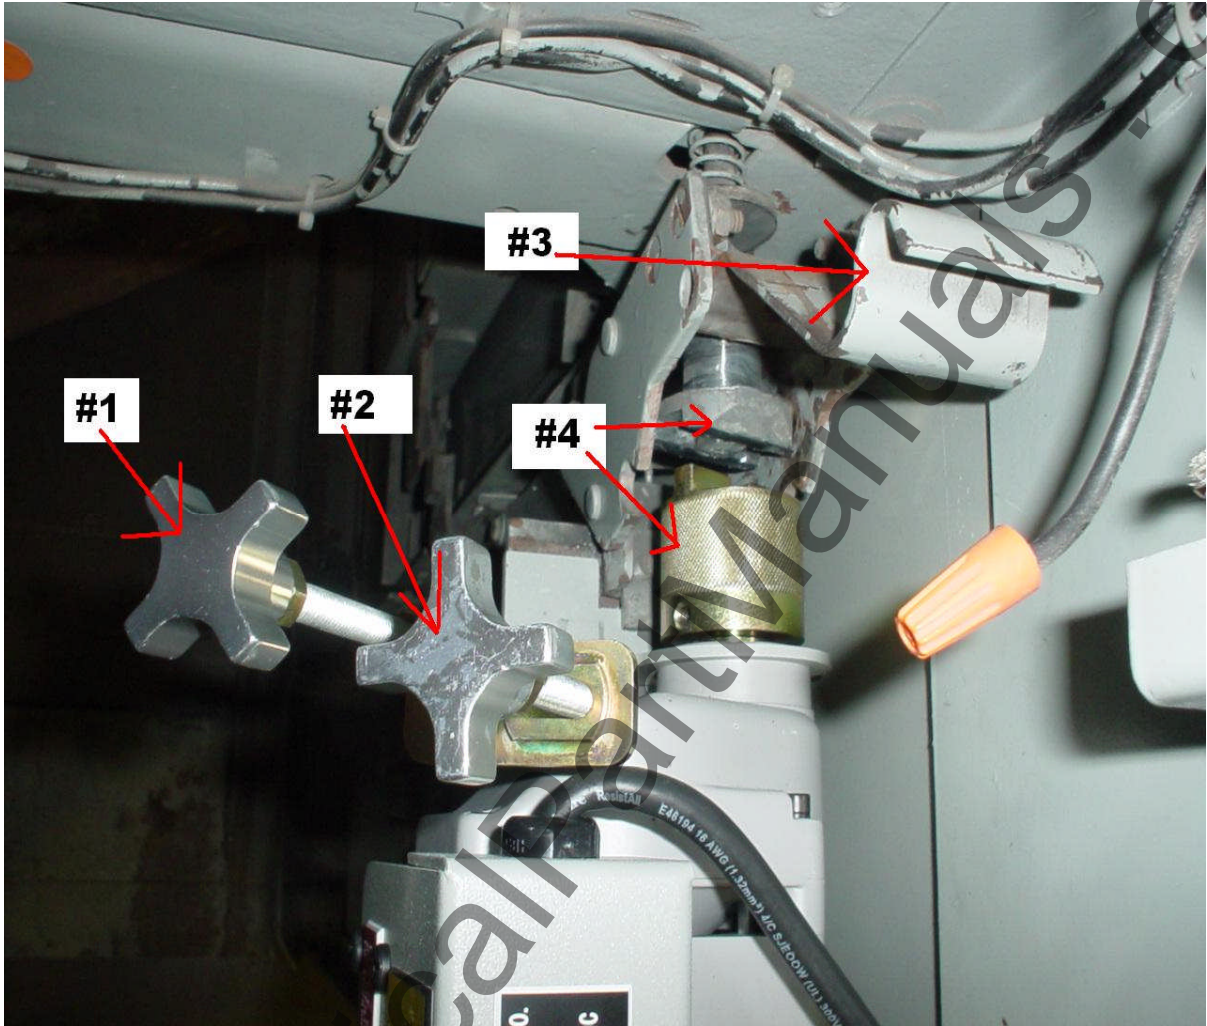
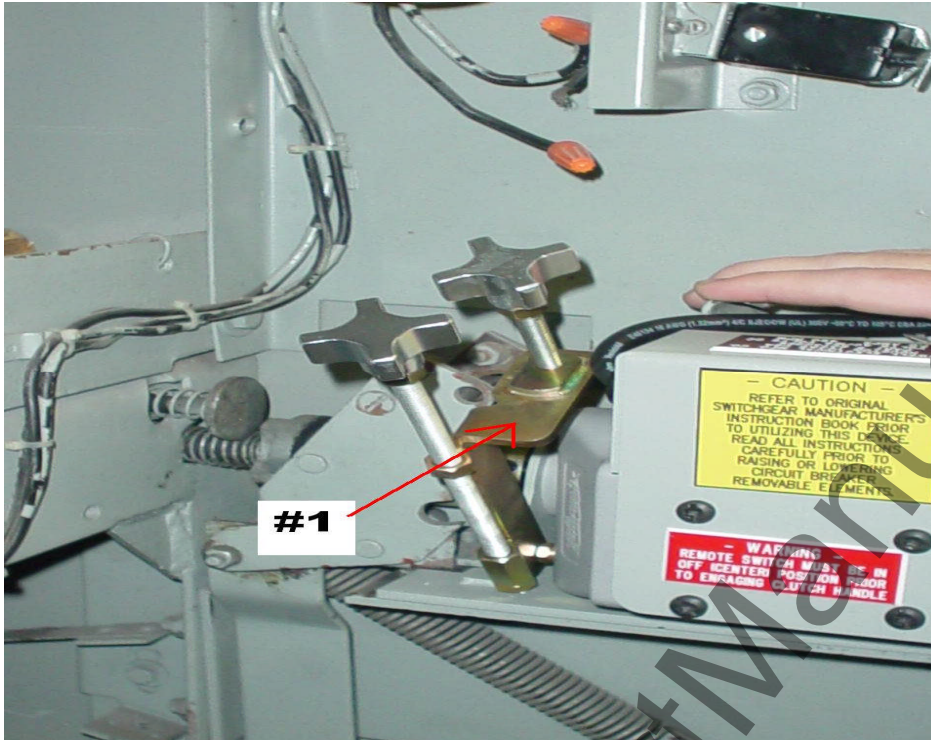

Figure 3 – Overhead View of Motor
Figure 4 – Hinge Assembly
6. Loosen the left hand knob {Figure 3, Item 1} so that the hinge assembly moves freely from the vertical position to 45 degrees to the left.
- a. Left Hand Knob – when loosened the hinge assembly can move freely from vertical position to 45 degrees to the left. {Figure 3} shows the hinge assembly 45 degrees left of center, because the left knob is loosened. When hinge is vertical, by tightening the left hand knob, the hinge will be locked in the vertical position
- b. Right Hand Knob – used to lock down the racking motor engagement handle {Figure 3, Item 3} in place so that the mercury switch will pick up & power will flow to motor
7. Make sure the male & female drive couplers {Figure 3, Item 4} are lined up. They can be aligned by turning the knurled male coupler on the remote device.
8. With the hinge assembly 45 degrees left of center {Figure 4}; pull the racking motor engagement handle {Figure 3, Item 3} down.